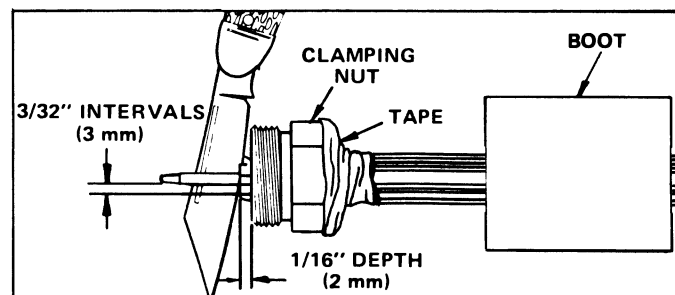

FIGURE 2
STEP 2. Place boot and clamping nut on cable with opening of boot toward cable end. See Figure 2. Secure clamping nut in place with tape, exposing outer conductor to dimension shown. Cut tabs into outer conductor to depth and intervals shown. Use mallet to tap knife. Use clamping nut as stop for knife.